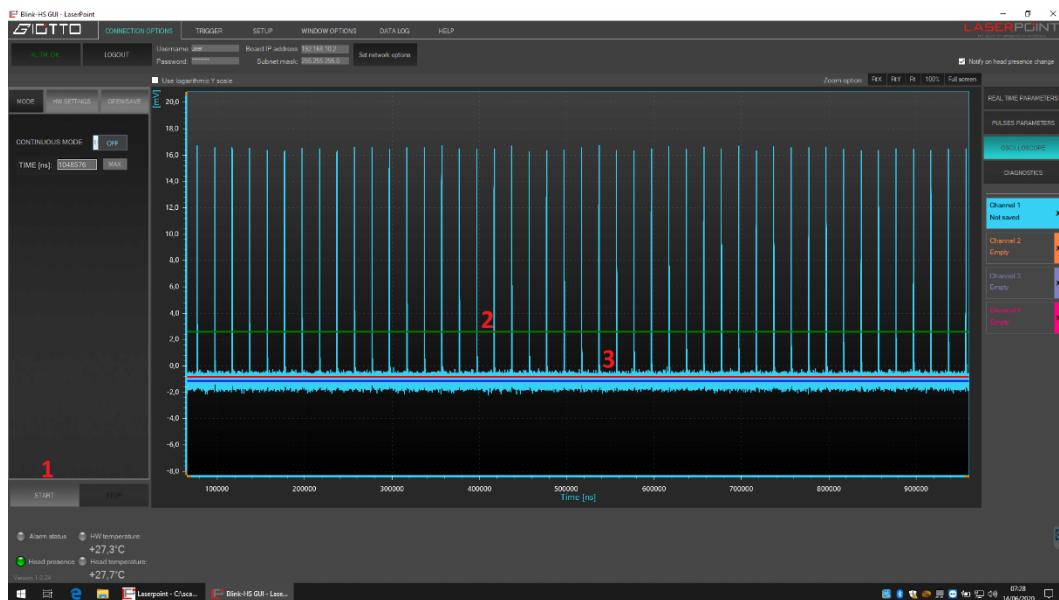

Figure 15
3. Laser ON, start acquisition (**1, fig.15**) of laser pulse train
4. Trigger Start (**green line, 2, fig.15**) is shown with value according to the procedure selected
5. Trigger Stop (**red line, 3, fig.15**) is shown with value according to the procedure selected